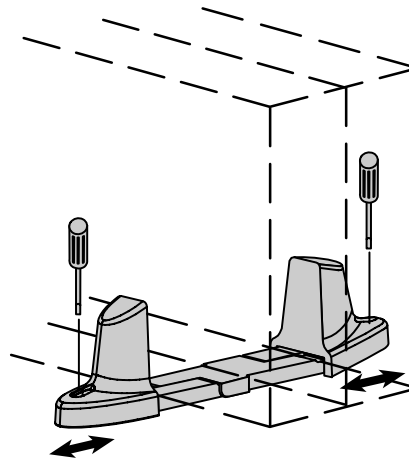

Figure 15. Tower Position with Two Cabinets
7. Carefully position the cabinet upright with the UPS indicators at the top and place in the pedestals (see Figure 15).